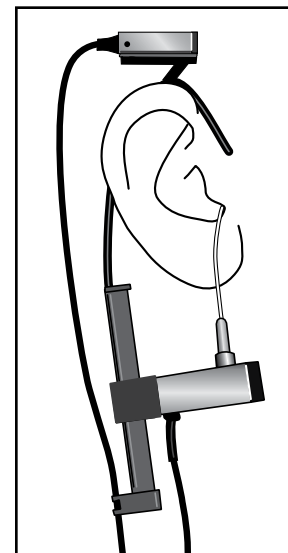

Figure 7.3.1B—Reference microphone placement
10. Place the integrated probe microphone on the ear, making sure the reference microphone is placed above the ear. The probe microphone is not inserted for this task. See Figure 7.3.1B.